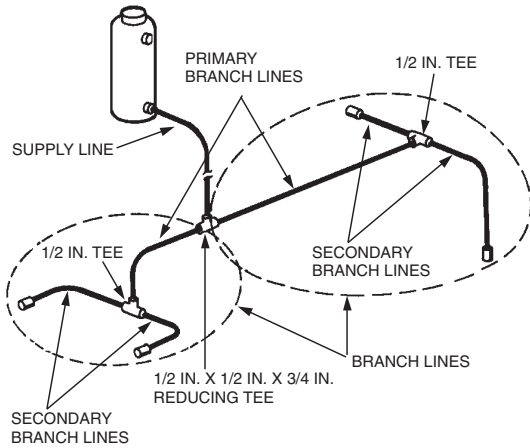
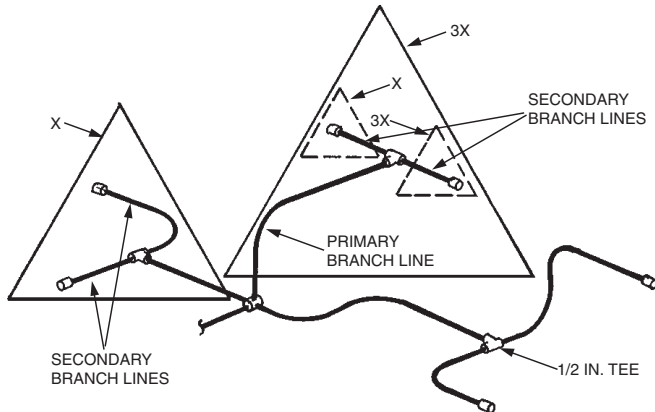

FIGURE 9F
FIGURE 9G
- The twenty and thirty pound systems can be either balanced or unbalanced systems, and can be arranged utilizing three different network combinations. These include the triple tee arrangement which utilizes the triple tee and four nozzles (See Figure 9E), the split tee arrangement utilizing one 3/4 in. x 1/2 in. x 1/2 in. reducing tee, two 1/2 in. tees, and four nozzles (See Figure 9F), and the distribution tee arrangement which utilizes a distribution tee, three 1/2 in. tees, and six nozzles (See Figure 9G).